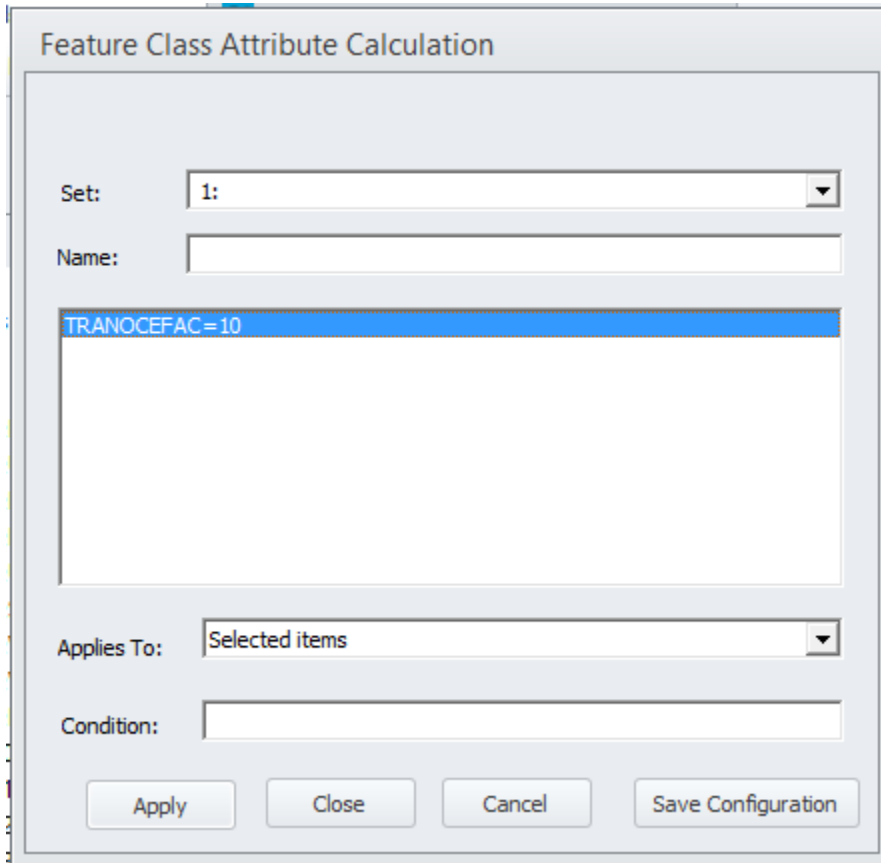

Figure 79 The Feature Class Attribute Calculation window
- 6) Select Node -> Compute and type in the equations by right-clicking in the largest field (in the middle) and select "Insert" (e.g., TRANOCEFAC=10, see Figure 79. To see the available parameters, right-click in the blank field in the Insert Equation window) and select which items the edits should apply to (selected). Click "Apply". When finished, click "Close".